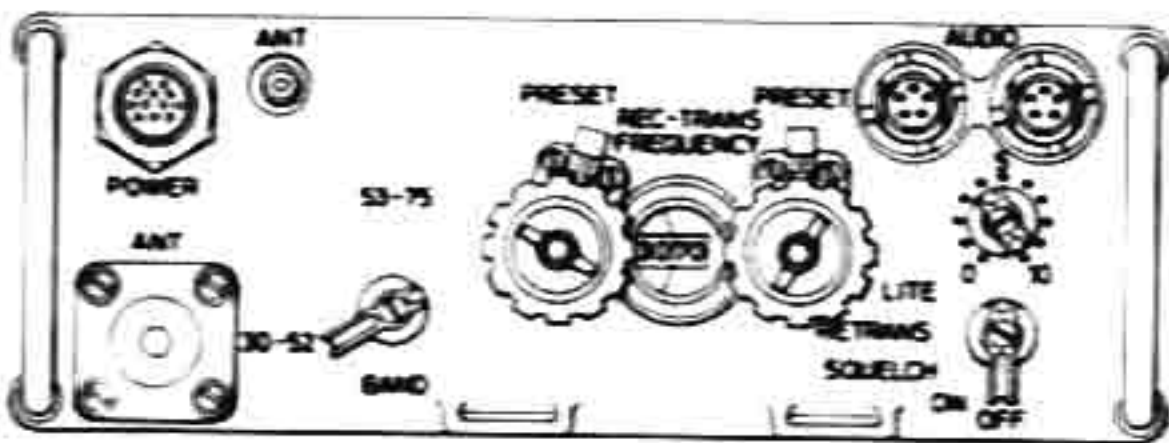

Fig. 1-40 VHF(FM) Radio, AN/PRC-25 (FM3 and 4)
1184. VHF (FM) Radio AN/PRC-25 (FM3 and 4). (Ref. Fig. 1-40). The AN/PRC-25 radio set is a short-range, man-pack portable, frequency modulated (FM) transceiver, used to provide two-way voice communication. The frequency range is 30-75 MHz. When the operational role of the aircraft requires more than two VHF (FM) radios to be used, two man-pack radios AN/PRC-25 may be fitted. They are installed in brackets on the rear of the pilot's and co-pilot's seats and connected into the aircraft audio system by means of cables located on either side of the cabin, stowed in clips forward of the cabin doors. The braided cable is attached to either of the posts marked AUDIO on the set, and the smooth cable to the post marked ANT. Antennae for the sets are stowed inside the fuselage on the starboard side of the aircraft aft of the rear access door. They are screwed into mounts on either wing-tip. Unless a passenger is carried, the sets must be switched on and set to the required frequencies before flight, as they are inaccessible from the cockpit. On the signal